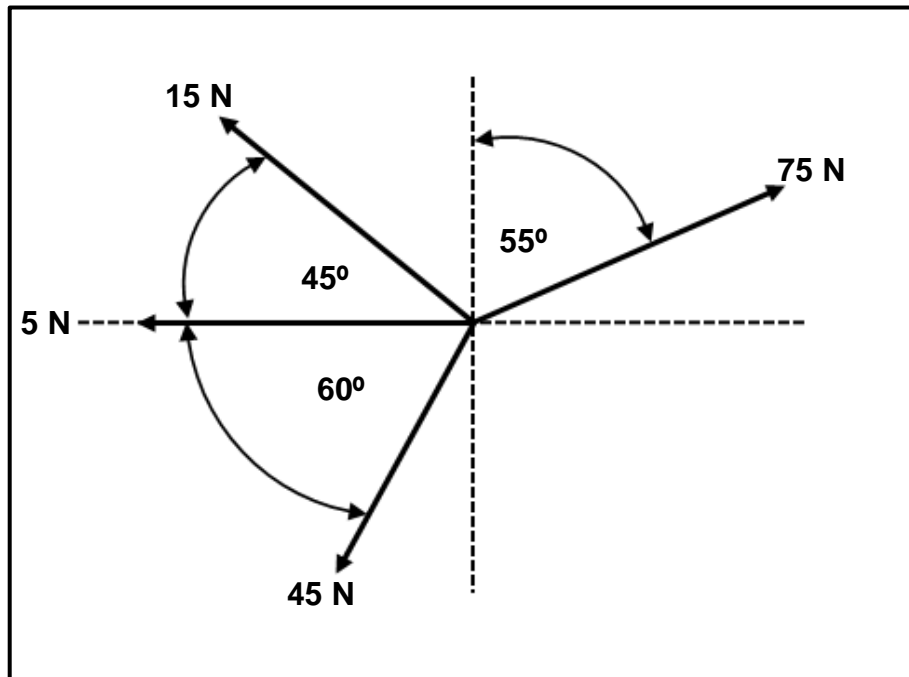

FIGURE 8.1
8.1 FIGURE 8.1 indicates a system of forces with four tensile forces acting onto the same point.
HINT: Draw and complete the diagram in FIGURE 8.1 below. Show ALL the horizontal and vertical components before you do the calculations.